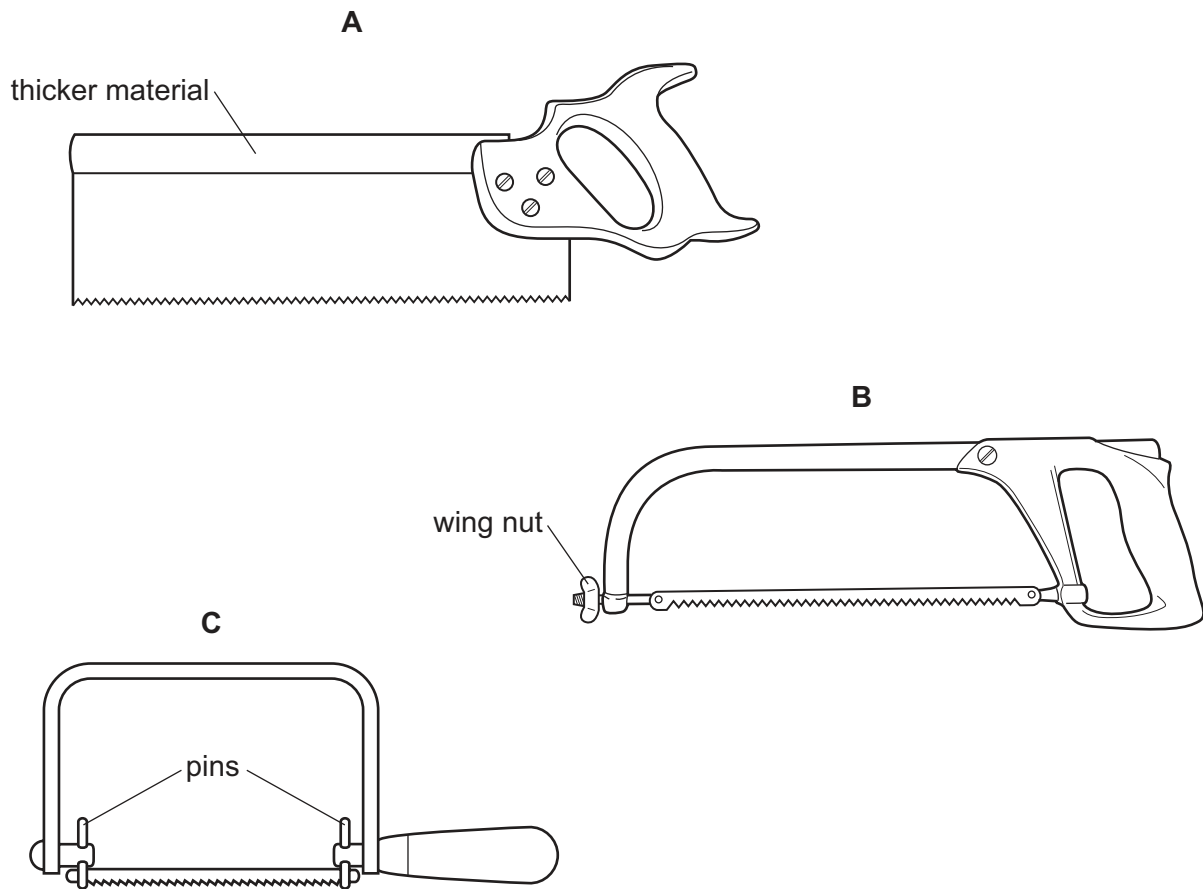

Fig. 7
11 Fig. 7 shows three different types of saw.
- (a) Identify each saw shown in Fig. 7 and give an example of its use. [6]